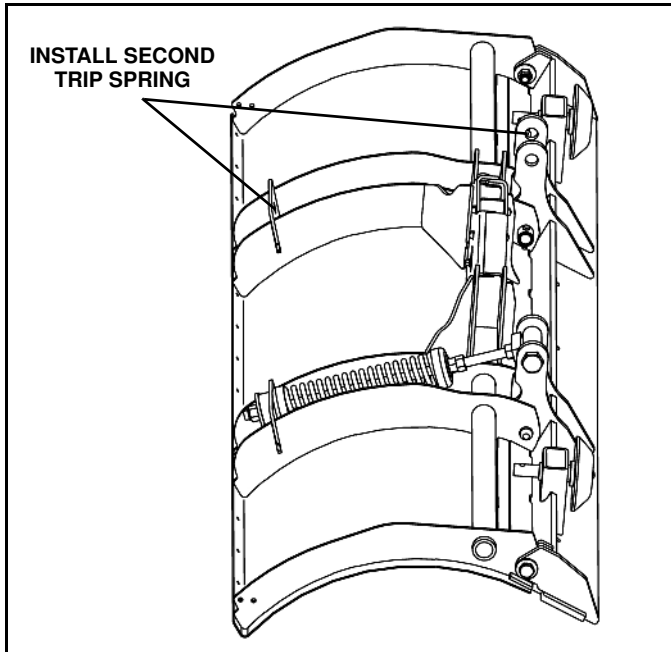

Figure 1-16
19. Repeat these steps to install the second trip spring on the opposite side of the blade. (See Figure 1-16)